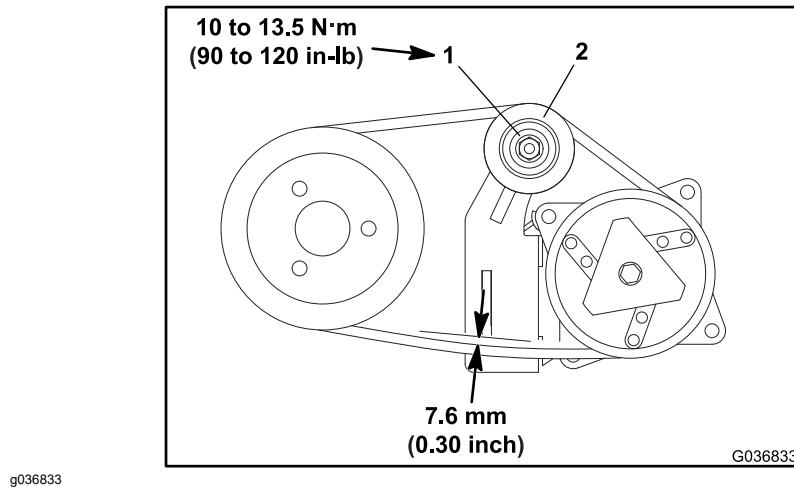

Figure 321
5. Install the air conditioning compressor drive belt. Adjust the drive belt tension until the belt deflection is **7.6 mm (0.30 inch)** at 10 kg (22 lb) force applied half way between the engine and compressor pulleys, and tighten the nut that secures the idler pulley (Figure 321).